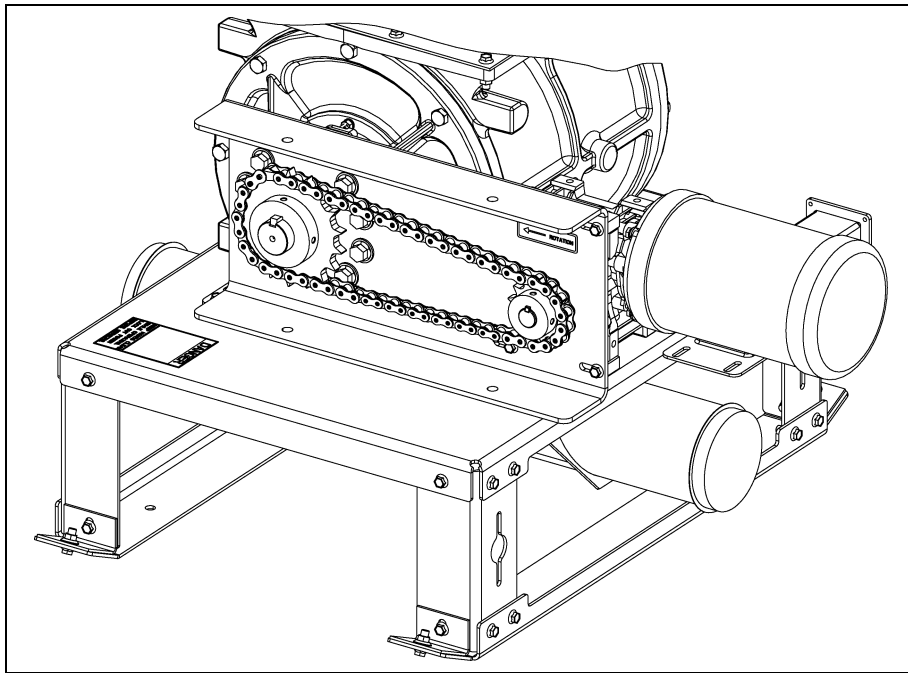

Figure 7M
11. Next, install the chain on to the sprockets and apply tension by sliding the gearbox to the right. (See Figure 7M.) Tighten the four (4) 3/8" flange bolts on the two (2) drive mount bars.